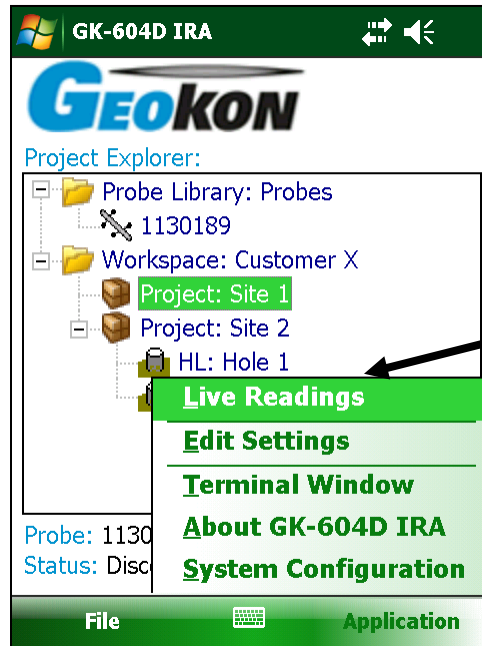

Figure 14 - Application Menu
- 11) To start the connection process, tap on the Application Menu, then tap “Live Readings” (Figure 14).